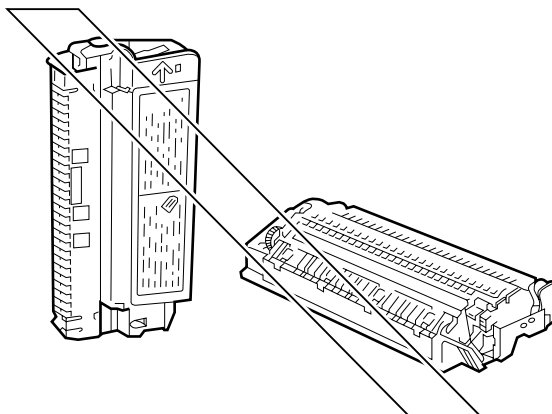

Figure 1-2
- b. Do not place the cartridge on its end or turn it over as shown in Figure 1-2.